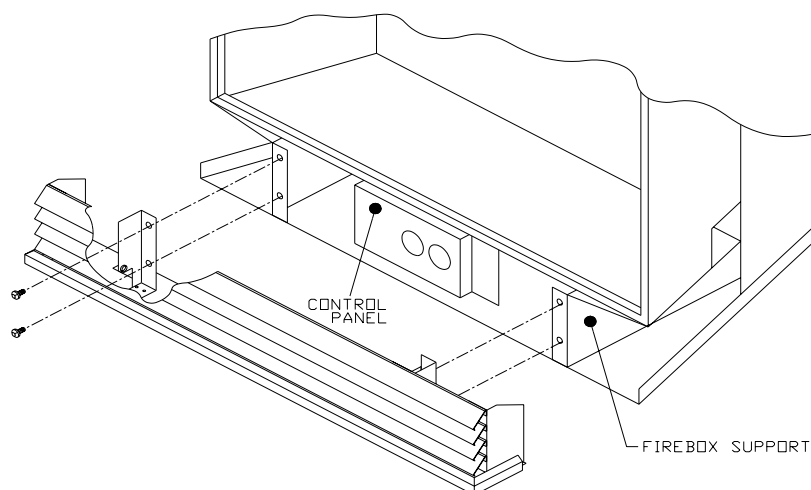

Figure 13
4. Place the lower grille assembly with the four screws that were previously removed (see Figure 13).